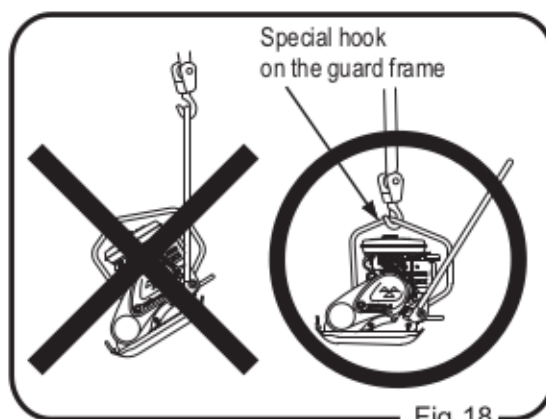

Fig.18
- 3 When lifting, always use a special hook on the guard frame (Fig. 18)